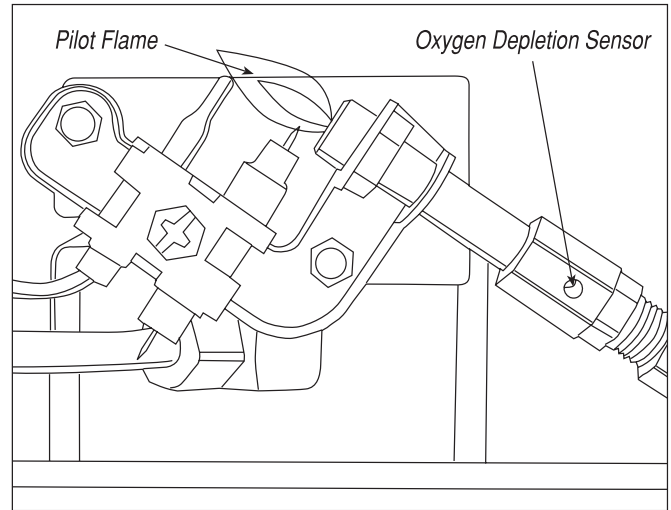

Figure 2
Always keep the heater area clear and free from combustible materials, gasoline and other flammable vapors and liquids. Keep the vent areas (slots in the bottom and the top at the front of heater) clear at all times. Visually inspect the pilot flame and burner periodically during use. The pilot flame should be blue in color (not yellow) and will extend beyond the thermocouple. The flame will surround the thermocouple just below the tip, see Figure 2.
- 4 Remove (1) burner assembly retaining screw from bottom of the heater.
- 8 Inspect and clean pilot (mounted to bracket) by using a vacuum or apply air pressure through the holes in the pilot indicated by the arrows in Figure 2.